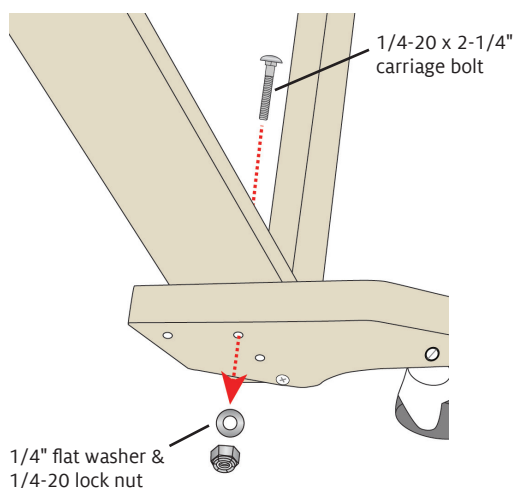

FIGURE 11: ATTACH REAR STROLLER BLOCK THROUGH TOP HOLE
12. Attach the top of the stroller block with a 1/4-20 x 2-1/4" carriage bolt, a 1/4" flat washer, and a 1/4-20 lock nut (Figure 11; see p. 2 for carriage bolt installation).
27. Attach the top of the stroller block with a 1/4-20 x 2-1/4" carriage bolt, a 1/4" flat washer, and a 1/4-20 lock nut (Figure 11; see p. 2 for carriage bolt installation).